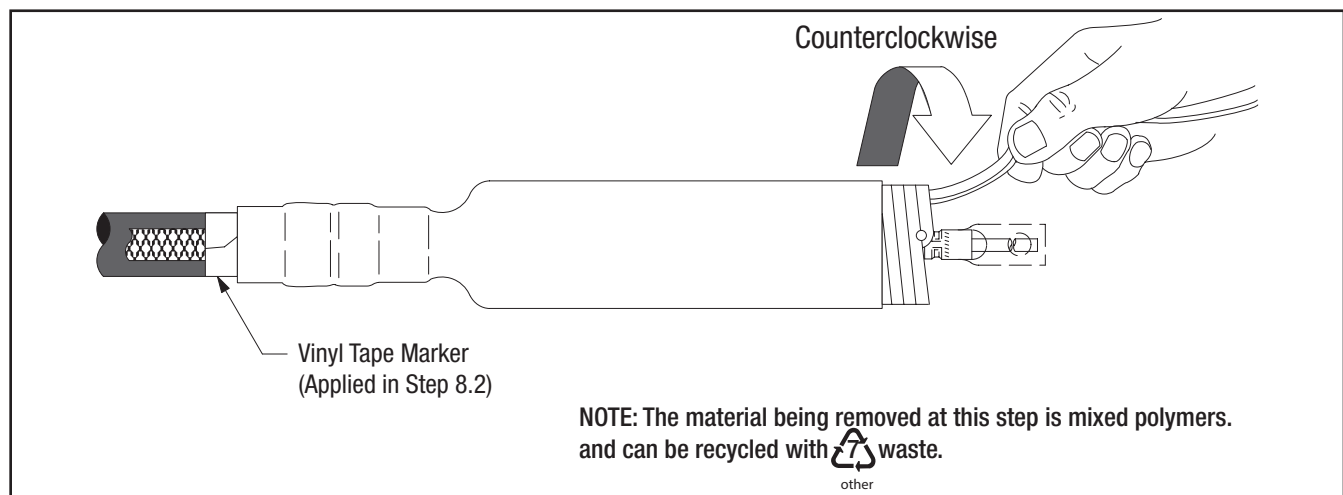

Figure 16
- 11.1 Slide the termination body onto the cable and remove core. Make sure the termination body (not the core) is butted up to the edge of the vinyl tape marker previously applied in Step 8.2 (Figure 16). Pull the core while unwinding, counterclockwise, starting with the loose end (Figure 16). Be sure to alternate the pulling and unwinding actions (pull-unwind-pull-unwind-etc.) to help prevent the core material from binding up as the core is being removed.